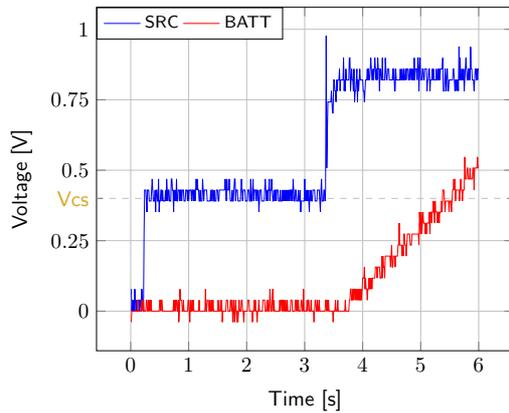

Figure 6: AEM10941 behaviour during cold start
- **SRC**: Equal to the cold-start voltage during the cold-start phase. Regulated at the selected MPPT percentage of  $V_{oc}$  when cold start is over (see Figure 6). Be careful that the cold-start phase time will shorten with the input power. Limit it to ease the observation.
- **BATT**: Starts to charge when the cold-start phase is over (see Figure 6).